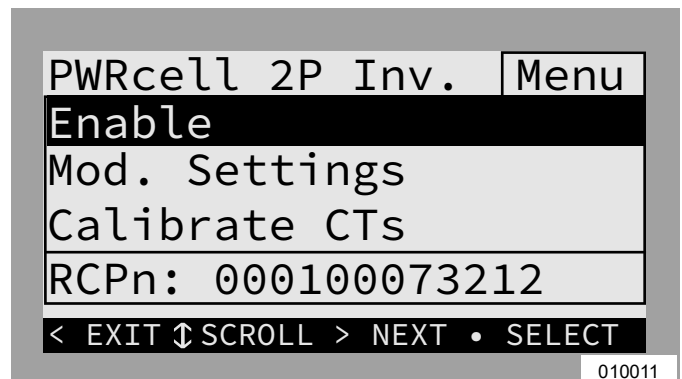

Figure 6-8. Enabling Inverter (2 of 4)
4. See Figure 6-8. Highlight Enable and press the center button.